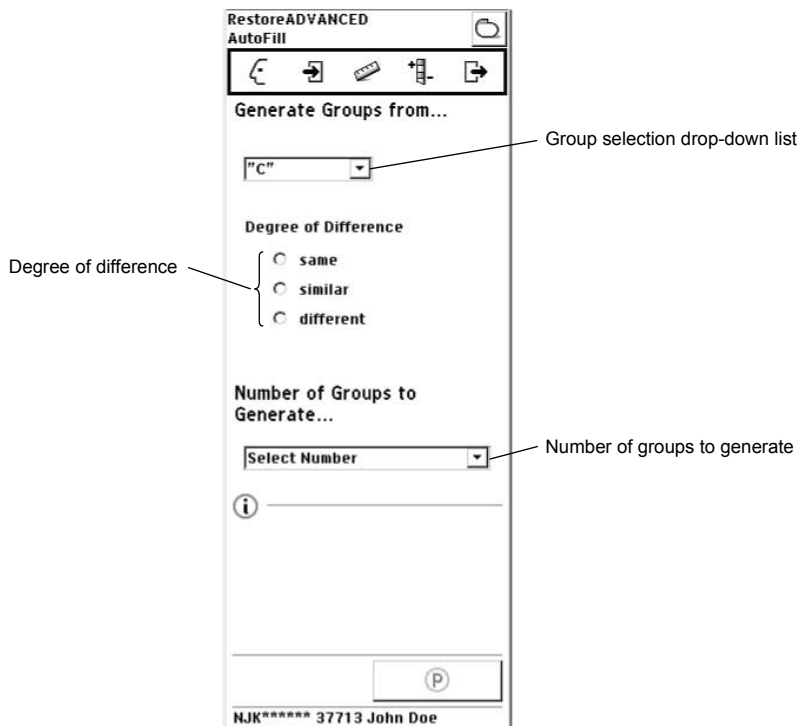

Figure 32. Creating new defined groups using AutoFill.
2. Select the starting group from the group selection drop-down list (Figure 32).
3. Select the degree of difference for the electrode patterns (rate and pulse width are unchanged) (Figure 32). The following options are available:
4. Select the number of groups to generate using the drop-down list (Figure 32).